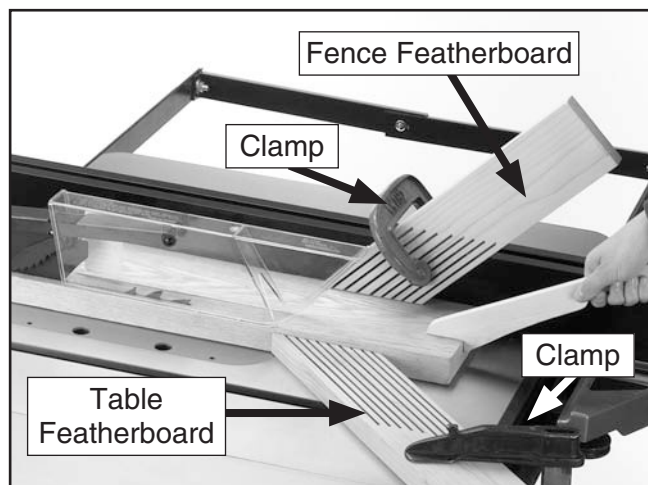

Figure 67. Example of featherboards secured with clamps.
3. Place a featherboard on the table away from the blade so all fingers point forward and contact the workpiece (see **Figure 67**).
6. Mount a second featherboard to the fence with another clamp (see **Figure 67**), then repeat **Step 5** to ensure it is secure.